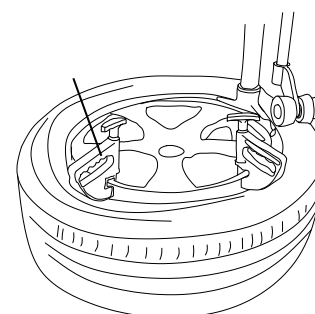

Fig 12
2. Make tyre top bead upon rear of demounting/mounting head and below front of demounting/mounting head, move right pressing arm and make sure it is locked, pull handle **D** down to make roller **C,G** to press top bead to position below demounting/mounting head. Lock pressing block **1** on rim edge, rotate turntable, finish tyre mounting. Fig 12